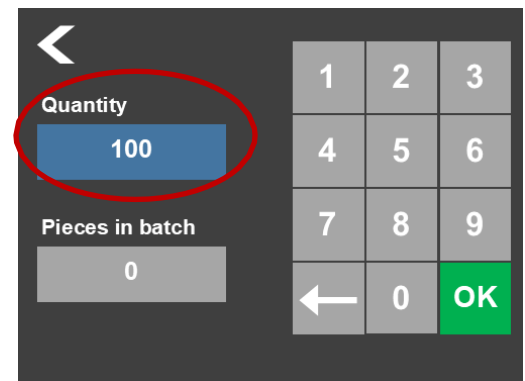

Figure 8.4.11
1. To change the quantity or batch size, the respective selection highlighted in blue must be confirmed by pressing the OK button. See Figure 8.4.11.